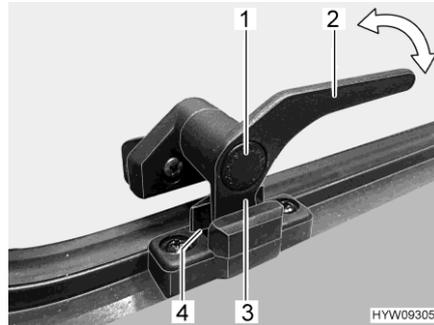

Fig. 43 Catch lever ("continuous ventilation" position)
- "Continuous ventilation" (Fig. 43)
- Press the safety knob (Fig. 43,1) and keep it pressed.
- Turn the catch lever (Fig. 43,2) a quarter turn towards the centre of the window.
- Return the catch lever to its initial position. Move the locking catch (Fig. 43,3) on the catch lever into the recess of the window catch (Fig. 43,4).
- Release the safety knob (Fig. 43,1).